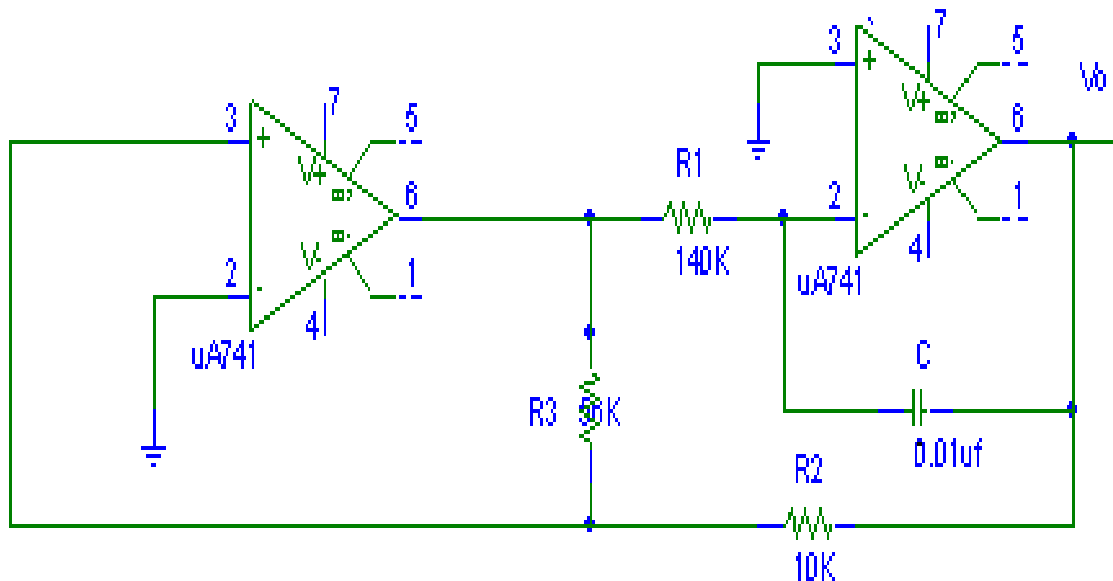

Fig.5.2: Triangular Wave Generator Using Op-Amp
1. The connections are made as per the circuit diagram as shown in Fig.5.2.